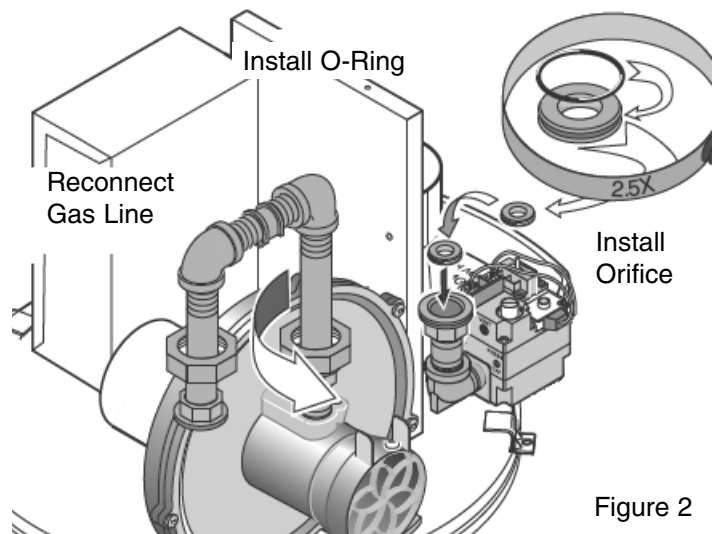

Figure 2
6. Install the O-Ring on the adjustment orifice (see Figure 2). Verify the correct size of the orifices included in your kit (see Parts List on page 3).